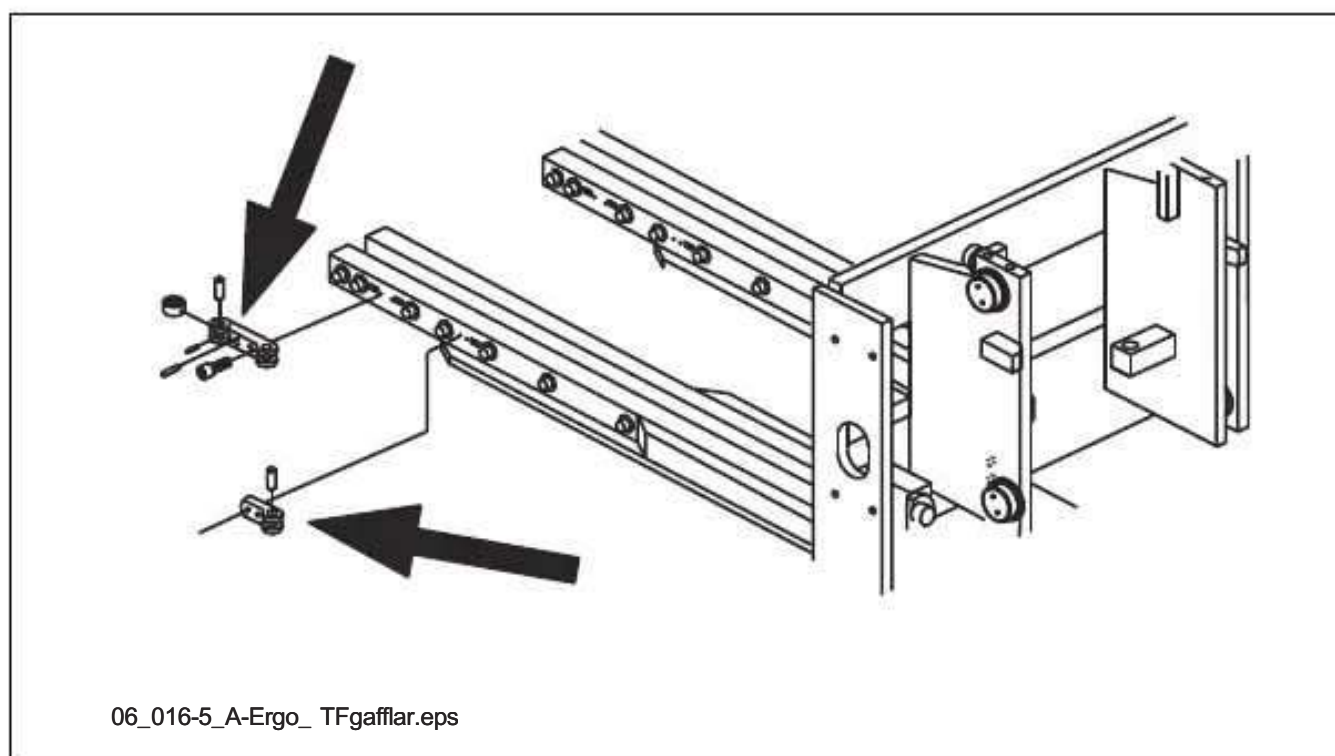

**Figure 6.33** Side thrust rollers
11. Remove the side thrust rollers, figure 6.33.